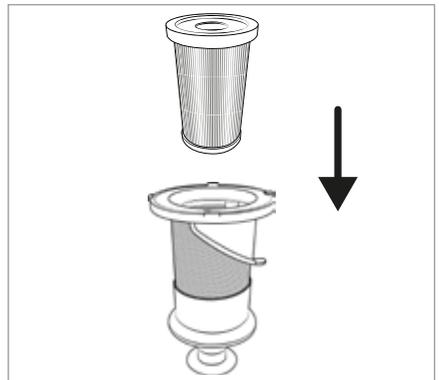

Fig. 24
- 7) Insert the EPA filter **5** into the stainless steel filter **6** (see Fig. 24).